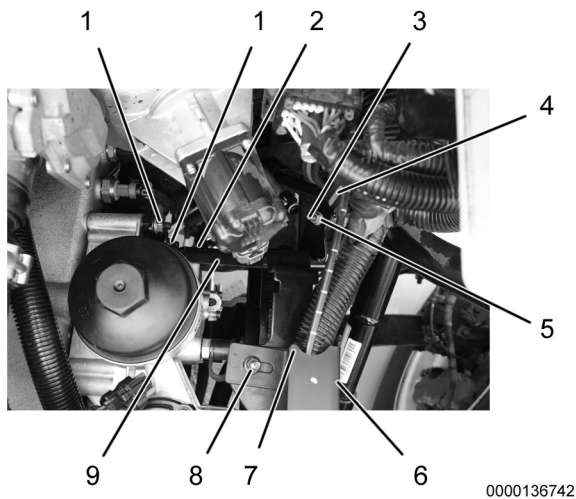

Figure 4. Oil Filler Tube Support.
- 1. M8 nut (2)
- 13. Remove nut (Figure 4, Item 8) from top of engine harness support bracket (Figure 4, Item 7).
- 14. Remove nut (Figure 4, Item 6) from side of engine harness support bracket.
- 15. Remove nut (Figure 4, Item 5) and bolt (Figure 4, Item 3) from P-clamp (Figure 4, Item 4).
- 16. Remove two M8 nuts (Figure 4, Item 1) from oil filler tube support (Figure 4, Item 9).
- 17. Remove M6 x 16 bolt (Figure 4, Item 2) from oil filler tube support.